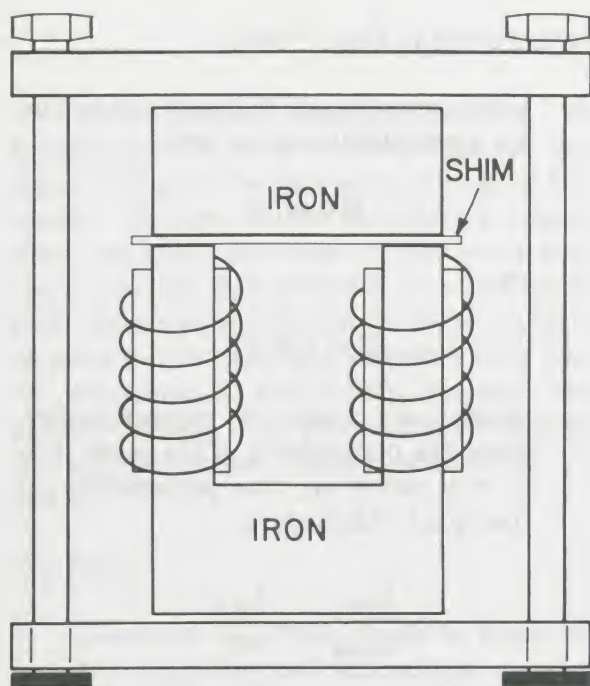

Figure 18. Paper shims inserted into the magnetic circuit.
3. Reduce the variable transformer setting to zero, and place a paper *shim* between the two parts of the transformer core, as indicated in Figure 18. A 3-in  $\times$  5-in card makes a convenient shim. Make sure the clamps are tight. Be careful, the iron core gets hot!